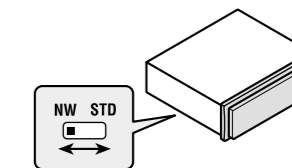

Fig. 15
- Use a thin standard tip screwdriver to switch the DSP switch on the side of this product (Fig. 15).